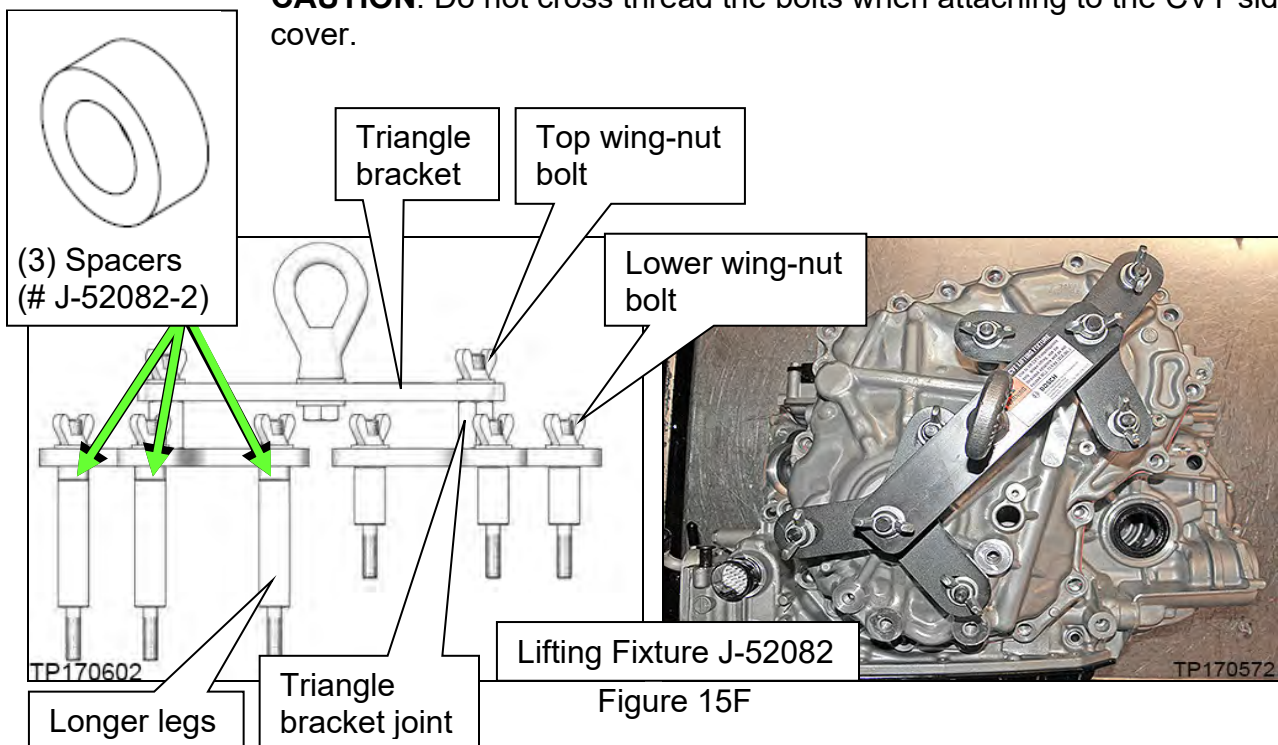

Figure 15F
10. Remove the six (6) pulley bracket bolts.
11. Attach universal Lifting Fixture J-52082 with spacers J-52082-2 to the side cover as shown in Figure 15F.
- Confirm that three (3) spacers (# J-52082-2) are present between the longer legs and triangle bracket as shown in Figure 15F.